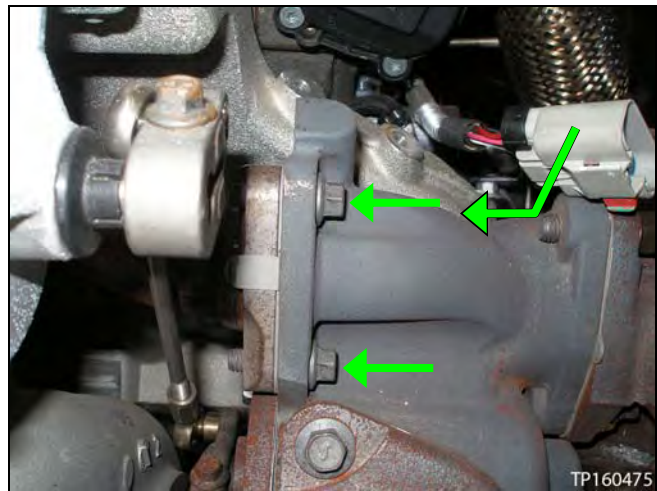

Figure 30
20. Remove the three (3) EGR bypass tube bolts (see Figure 30).
- The third bolt cannot be seen in Figure 30.